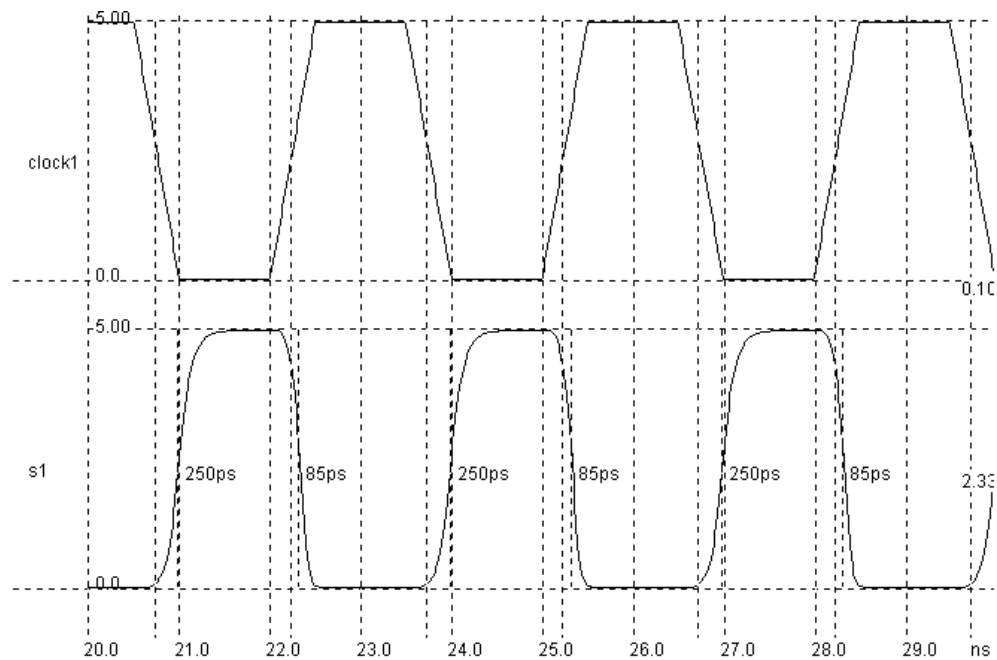

Fig. 10. Analog simulation of the CMOS inverter. The output has the opposite value of the clock input.
Click on **Simulate** in the main menu. The timing diagrams of the inverter appear, as shown in Figure 10. Click on **More** in order to perform more simulations. Click on **Stop** to return to the editor. The gate delay is computed at $V_{DD}/2$, that is 2.5 V, between the signal selected in the Start Node list and the signal selected with the Stop Node list.
- ◆ Click on **Voltage & Currents** to see both currents and voltages (Figure 10). The current peaks can be seen in the upper window. All voltages are reported in the lower window. The current scale can be adjusted using a predefined list of values. Some current is consumed at VDD supply, mainly when the output of the inverter rises to VDD. Some current is consumed at VSS, mainly when the output goes down to zero.